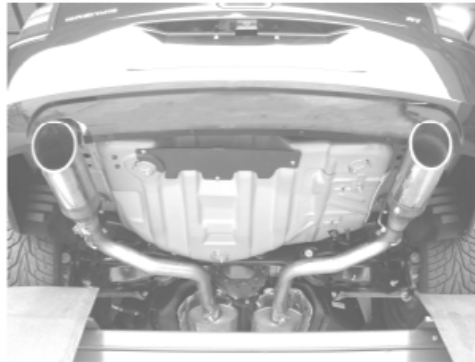

Figure 6
3. Place a clamp over the expanded end of both left and right intermediate/tail pipe assemblies and set them into position as shown in figure 6 installing the hangers into the rubber brackets. **DO NOT** tighten the clamps.